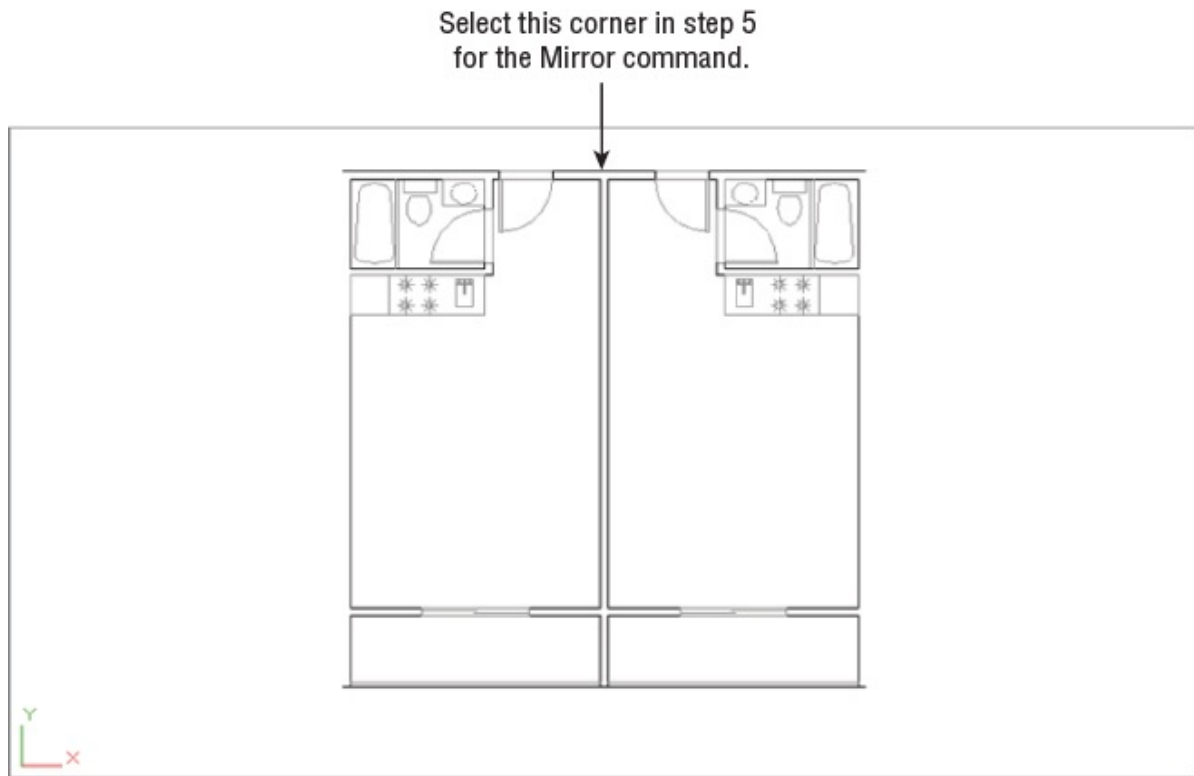

FIGURE 7.1 The unit plan mirrored
5. Select the endpoint of the upper-right corner of the apartment unit, as shown in Figure 7.1.
8. At the Erase Source Objects? [Yes/No] <N>: prompt, press ↵. You'll get a 5" wall thickness between two studio units. Your drawing should be similar to the one shown in Figure 7.1.